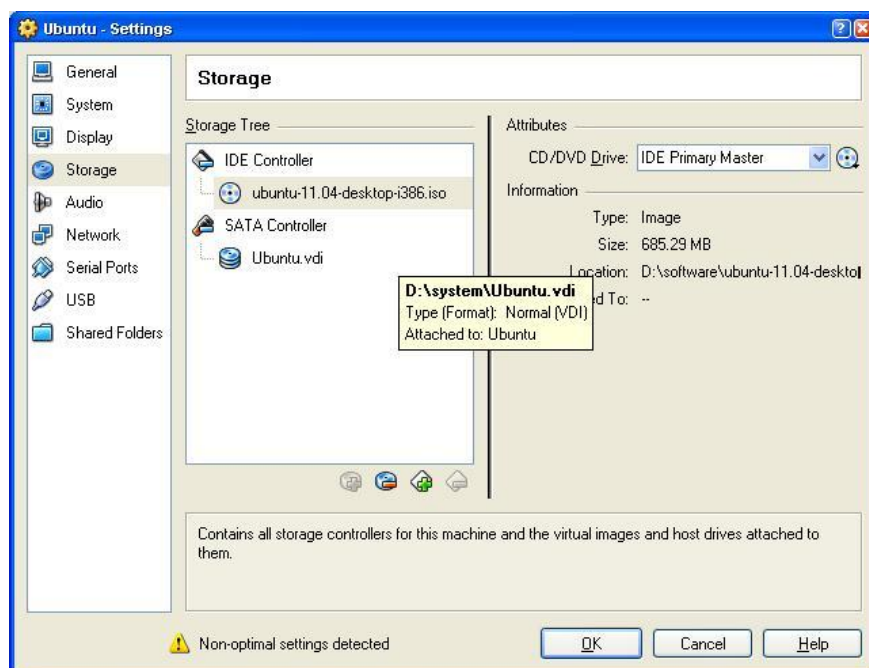

Figure 13 Select ISO file
- 11) Ubuntu system is ready for use after restarting. Normally the ISO file shown in Figure 13 will be ejected automatically by VirtualBox after restarting Ubuntu. If it doesn't, you could eject the ISO file manually in the **Setting** window of VirtualBox. The following window shows how it looks after the ISO file is ejected.